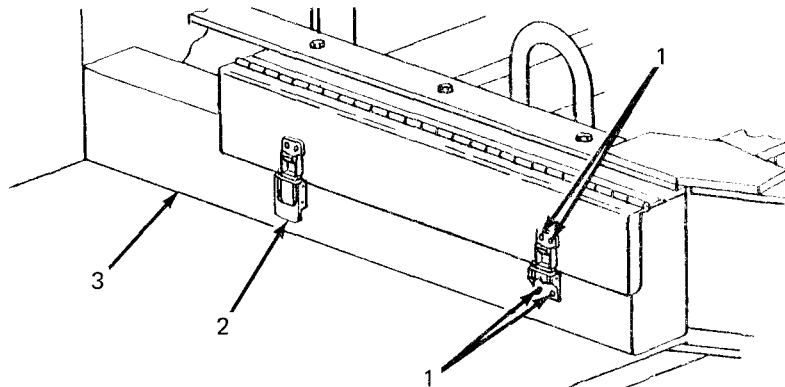

Figure 5-1. Accessory Box Repair.
5-3. Accessory Box Repair. (See figure 5-1.) The accessory box is repaired by replacing the latch and strike assemblies. The box itself may be straightened, welded and repainted. If required, repaint in accordance with MIL-T-704, Type F, Color Green, No. 383 of MIL-C-46168. Replace latch and strike assemblies as follows:
- a. Grind off or drill out solid rivets (1, figure 5-1) securing latch and strike assembly (2) to accessory box (3).
- b. Position new latch and strike assembly (2) on accessory box (3) and secure with solid rivets (1).